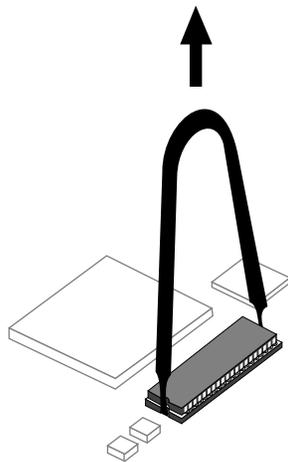

Figure 1-14 Removing the PROM Chip
- Insert the chip removal tool between the PROM chip and the socket on the board, as shown in Figure 1-14. Work the chip away from the socket in a rocking motion, pulling up on one side of the chip and then on the other side. It may be difficult to loosen.